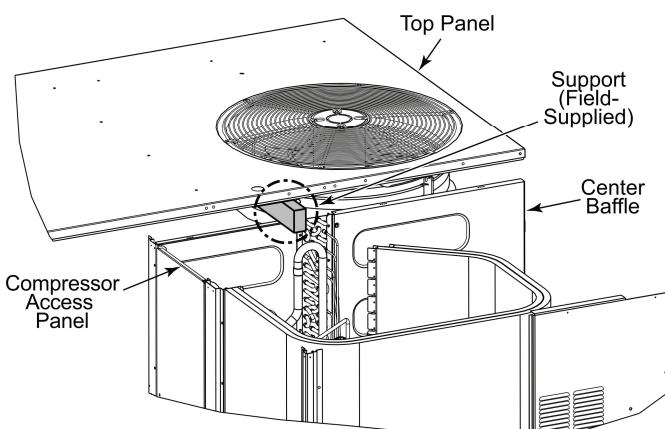

Fig. 14 — Top Panel Position
3. Lift and rotate the top panel at the condenser fan end and rotate the panel 90 degrees. Support the top panel so it remains level while resting on the condenser fan as shown in Fig. 14.